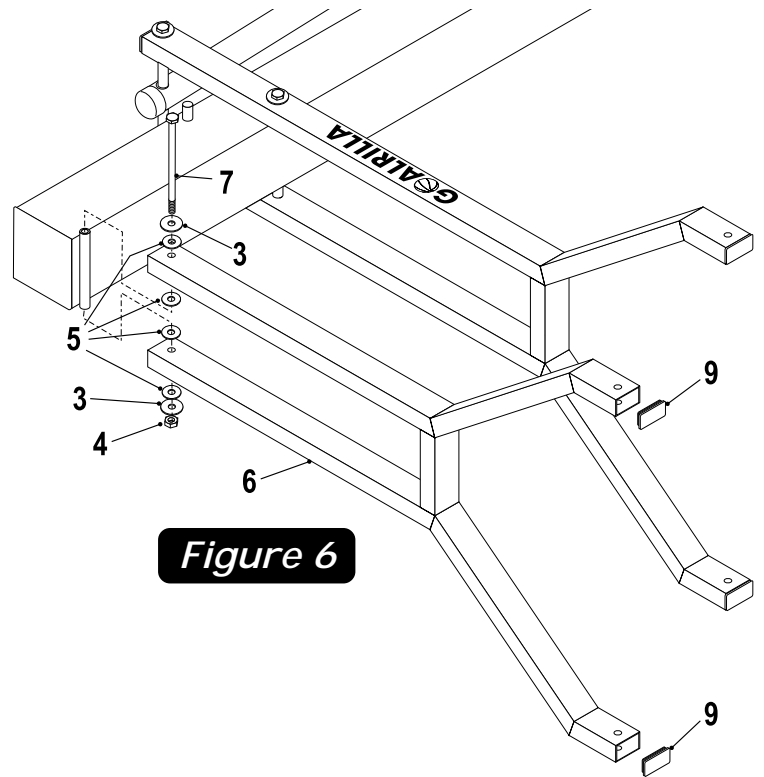

Figure 6
7. Attach Upper Arm (#6) to Pole (#2), as shown in Figure 6, using a bolt (#7), two flatwashers (#3), four plastic washers (#5) and hex nut (#4). Tighten bolts snug but, do not over tighten. Board Arms must pivot freely.